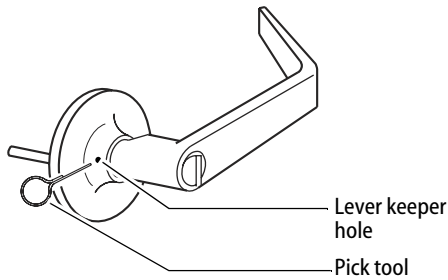

Figure 6 Removing the inside lever
- 1 Insert the pick tool into the lever keeper hole and depress the keeper. Slide the lever off. See Figure 6.